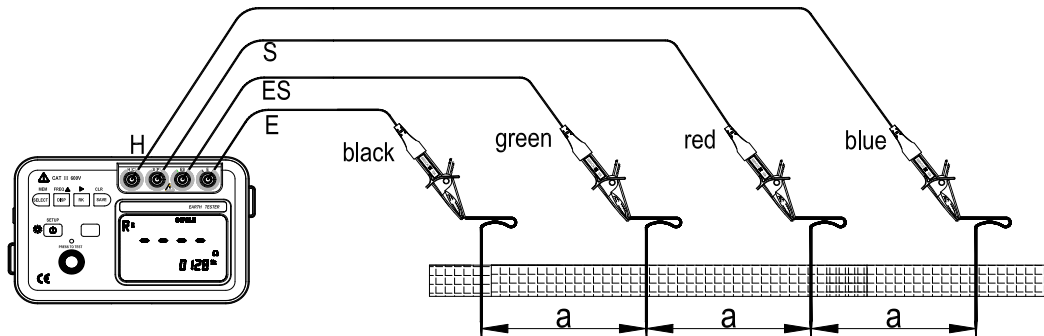

Figure 10
- (1) Press  key to select measurement method: Earth Resistivity;
- (2) Connection of Auxiliary Earth Spikes and Test Leads(See figure 10)